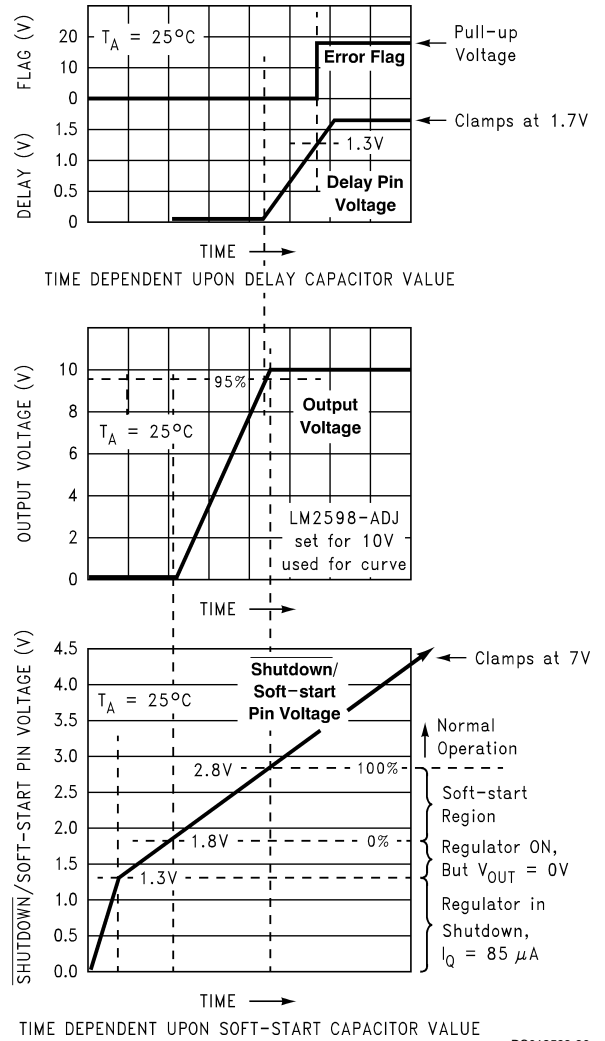
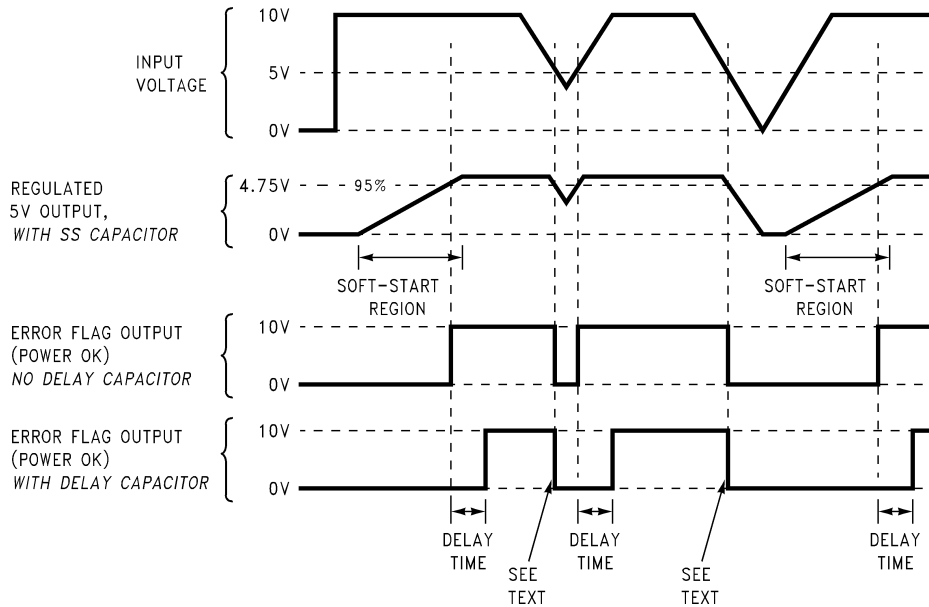

FIGURE 13. Soft-start, Delay, Error, Output
FIGURE 14. Timing Diagram for 5V Output
C_{SS} —A capacitor on this pin provides the regulator with a Soft-start feature (slow start-up). When the DC input voltage is first applied to the regulator, or when the \overline{SD} /Soft-start pin is allowed to go high, a constant current (approximately $5 \mu A$) begins charging this capacitor). As the capacitor voltage rises, the regulator goes through four operating regions (See the bottom curve in Figure 13).
3. Soft-start Region. When the \overline{SD} /SS pin voltage is between 1.8V and 2.8V (@ 25°C), the regulator is in a Soft-start condition. The switch (Pin 1) duty cycle initially starts out very low, with narrow pulses and gradually get wider as the capacitor \overline{SD} /SS pin ramps up towards 2.8V. As the duty cycle increases, the output voltage also increases at a controlled ramp up. See the center curve in Figure 13. The input supply current requirement also starts out at a low level for
Note: The lower curve shown in Figure 13 shows the Soft-start region from 0% to 100%. This is not the duty cycle percentage, but the output voltage percentage. Also, the Soft-start voltage range has a negative temperature coefficient associated with it. See the Soft-start curve in the electrical characteristics section.
C_{DELAY} — Provides delay for the error flag output. See the upper curve in *Figure 13*, and also refer to timing diagrams in *Figure 14*. A capacitor on this pin provides a time delay between the time the regulated output voltage (when it is increasing in value) reaches 95% of the nominal output voltage, and the time the error flag output goes high. A 3 μ A constant current from the delay pin charges the delay capacitor resulting in a voltage ramp. When this voltage reaches a threshold of approximately 1.3V, the open collector error flag output (or power OK) goes high. This signal can be used to indicate that the regulated output has reached the correct voltage and has stabilized.